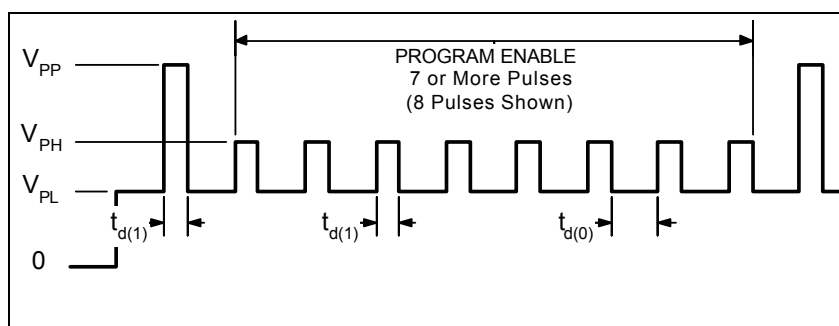

Figure 4. Program Enable Pulse Sequence
**Program Enable** To program the device, a keying sequence is used to activate /enable the programming mode as shown in figure 4. This program key sequence consisting of a  $V_{PP}$  pulse, at least seven  $V_{PH}$  pulses, and a  $V_{PP}$  pulse with no supply interruptions. The sequence is designed to prevent the device from being programmed accidentally (e.g., as a result of noise on the supply line).